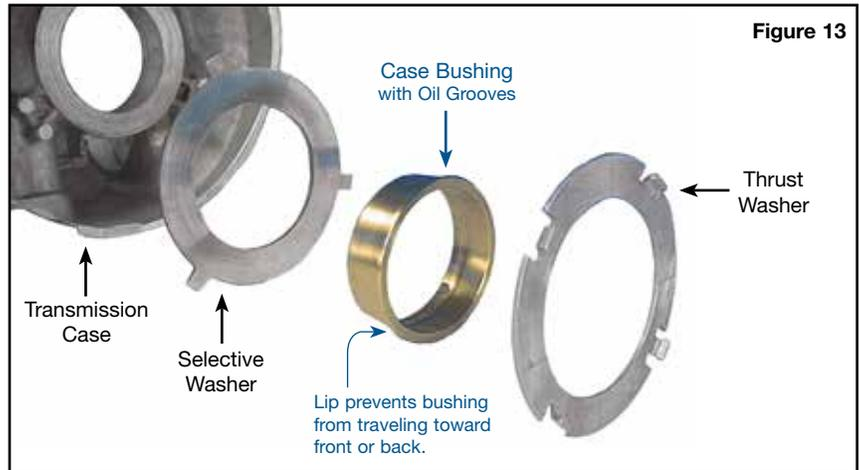

Figure 13
- Remove output shaft, selective washer, thrust washer and OE case bushing from transmission case (Figure 13).